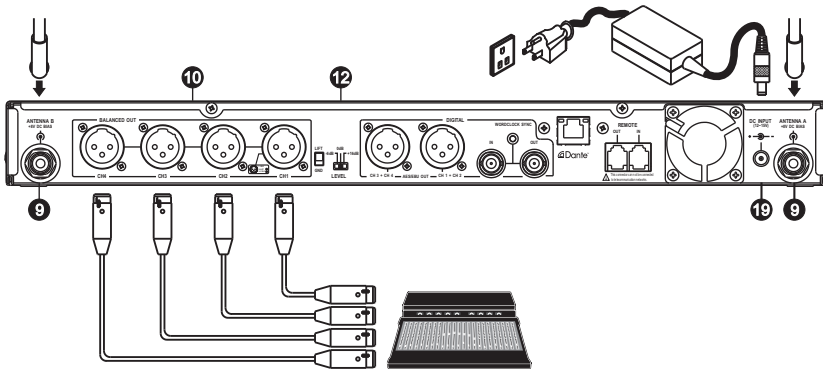

Fig. 2
II. Receiver Installation, Fig. 2
- (A) Each channel signal output can be connected to the mixer or amplifier's MIC IN jack by using a cable with balanced XLR connector, Fig. 2.